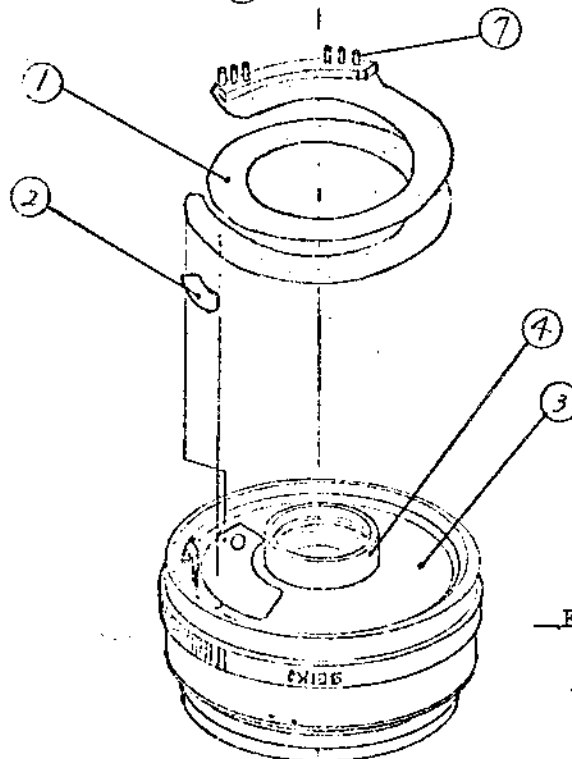

Fig. 1
Attach a piece of flexible fixing tape ② to the contact piece and insulating plate set ① by the procedures shown in Fig. 1 and 3.